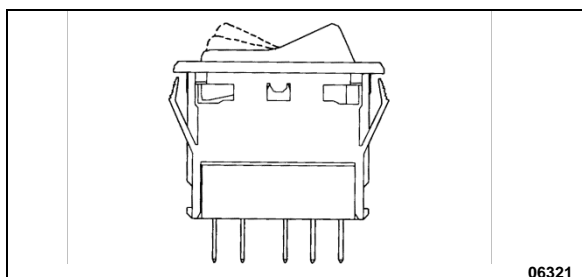

FIGURE 82: SWITCH
3. To install a new switch, reverse the procedure (Figure 82)